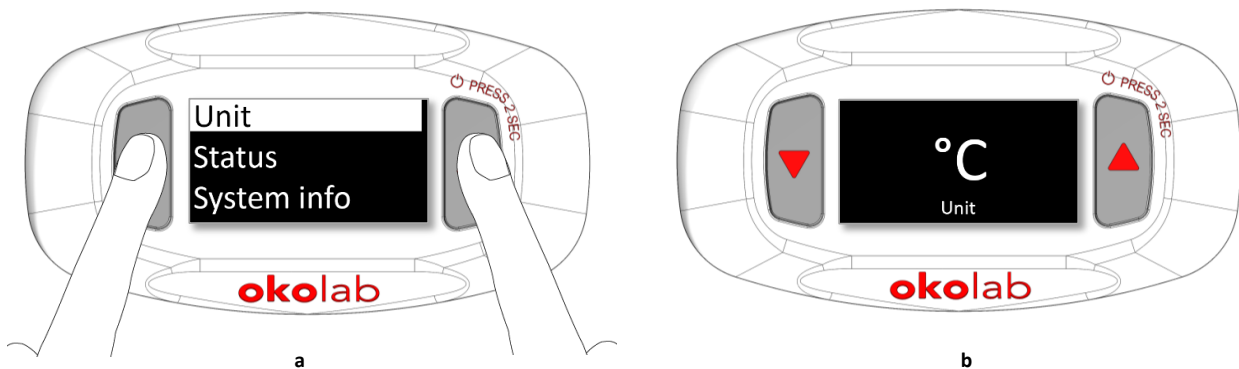

Figure 27. Unit submenu (a - b).
1. Press UP & DOWN buttons at same time for 1 second to enter the Unit page (see Figure 27 a).